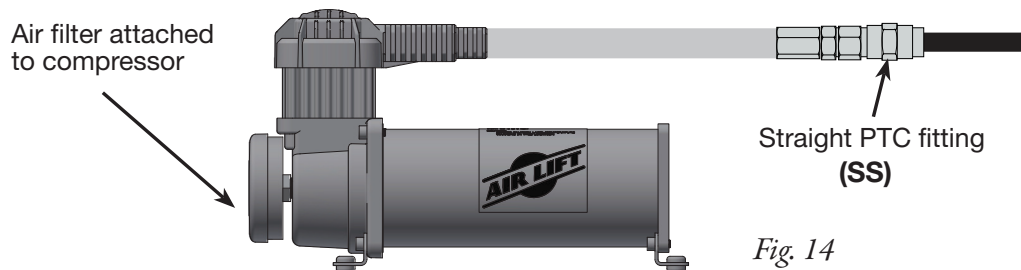

Fig. 14
1. If you are not installing the leader line directly to a tank, attach the straight PTC fitting (SS) to the end of the leader line (Fig. 14). Apply sealant tape and install 1 1/2-2 turns beyond finger-tight.
2. Prepare the compressor intake. If the compressor (C, U or T) is mounted inside the vehicle, attach the air filter to the port on the end of the compressor (Fig. 14). If the compressor is located outside the vehicle, snorkel the inlet air filter to a dry location inside the vehicle using components supplied with the compressor (Fig. 15).